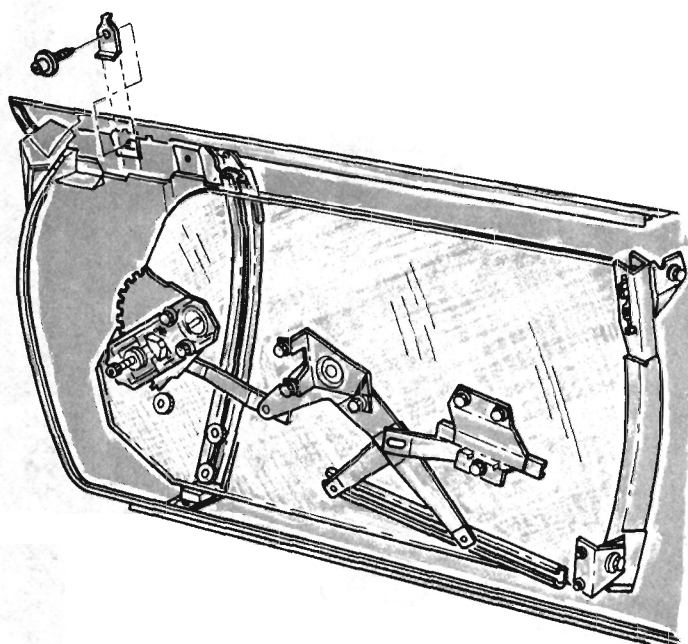

Fig. 2 - Glass Up-Stops
(4) Move pivot bracket fore or aft and set glass parallel to weatherstrip locating bead at primary sealing lip.
(5) Tighten pivot bracket and support screw assemblies.
(6) Set front up-stop down against bumper on glass.
(7) Tighten up-stop bracket screw on inner panel (Fig. 2).
(8) Set rear channel up-stop wedge down against stop in rear frame.
(9) Tighten rear channel and bracket upper attachment screw.
The glass up-stop (Fig. 2) is attached to the door outside panel belt reinforcement with a screw and washer assembly. Engage tab on stop with slot in reinforcement.